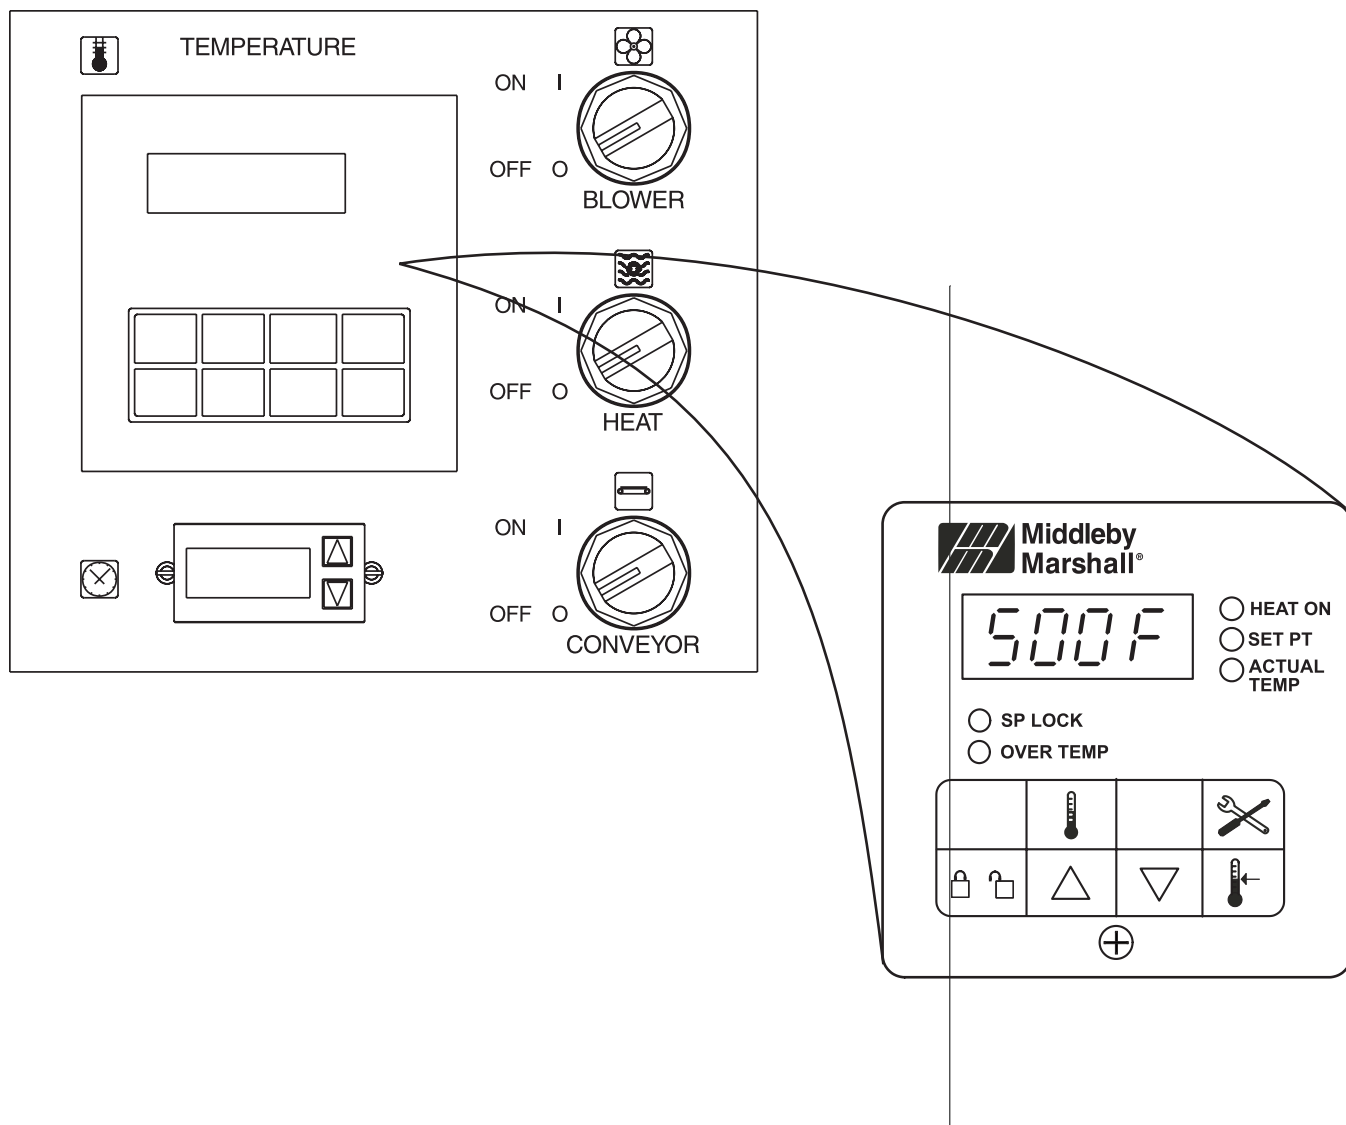

Figure 3-6. Control Panel
1. Turn the BLOWER switch (Figure 3-6) to the “ON” or “I” position. This starts the main blower fan and the cooling fans. The blower circulates air through the air fingers and must stay on during the cooking or baking process.
2. Check to see if the cooling fans (see Figure 1-8) are operating when the blower switch (see Figure 3-6) is turned “ON” or “I”. The cooling fans cool the control components and blower motor. The cooling fans, located at the rear of the oven blows air into and through the cabinet. Air is exhausted through the front of the cabinet and also out the front of the oven. Refer to Daily Maintenance Section for fan intake checking procedure.
3. Turn the CONVEYOR switch (Figure 3-6) to the “ON” or “I” position. This starts the conveyor belt moving through the oven. Set the conveyor speed for the desired baking time. Refer to the following Procedures E, F and G.
5. Turn the HEAT switch (Figure 3-6) to the “ON” or “I” position. Wait for the “Heat ON” light to turn on.